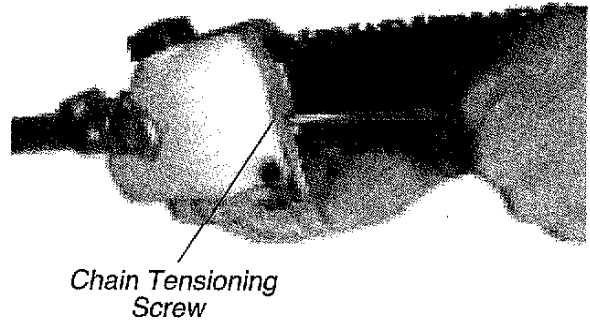

Figure 13
3. Lift the nose of the guide bar while turning the chain tensioning screw. See Figure 13.